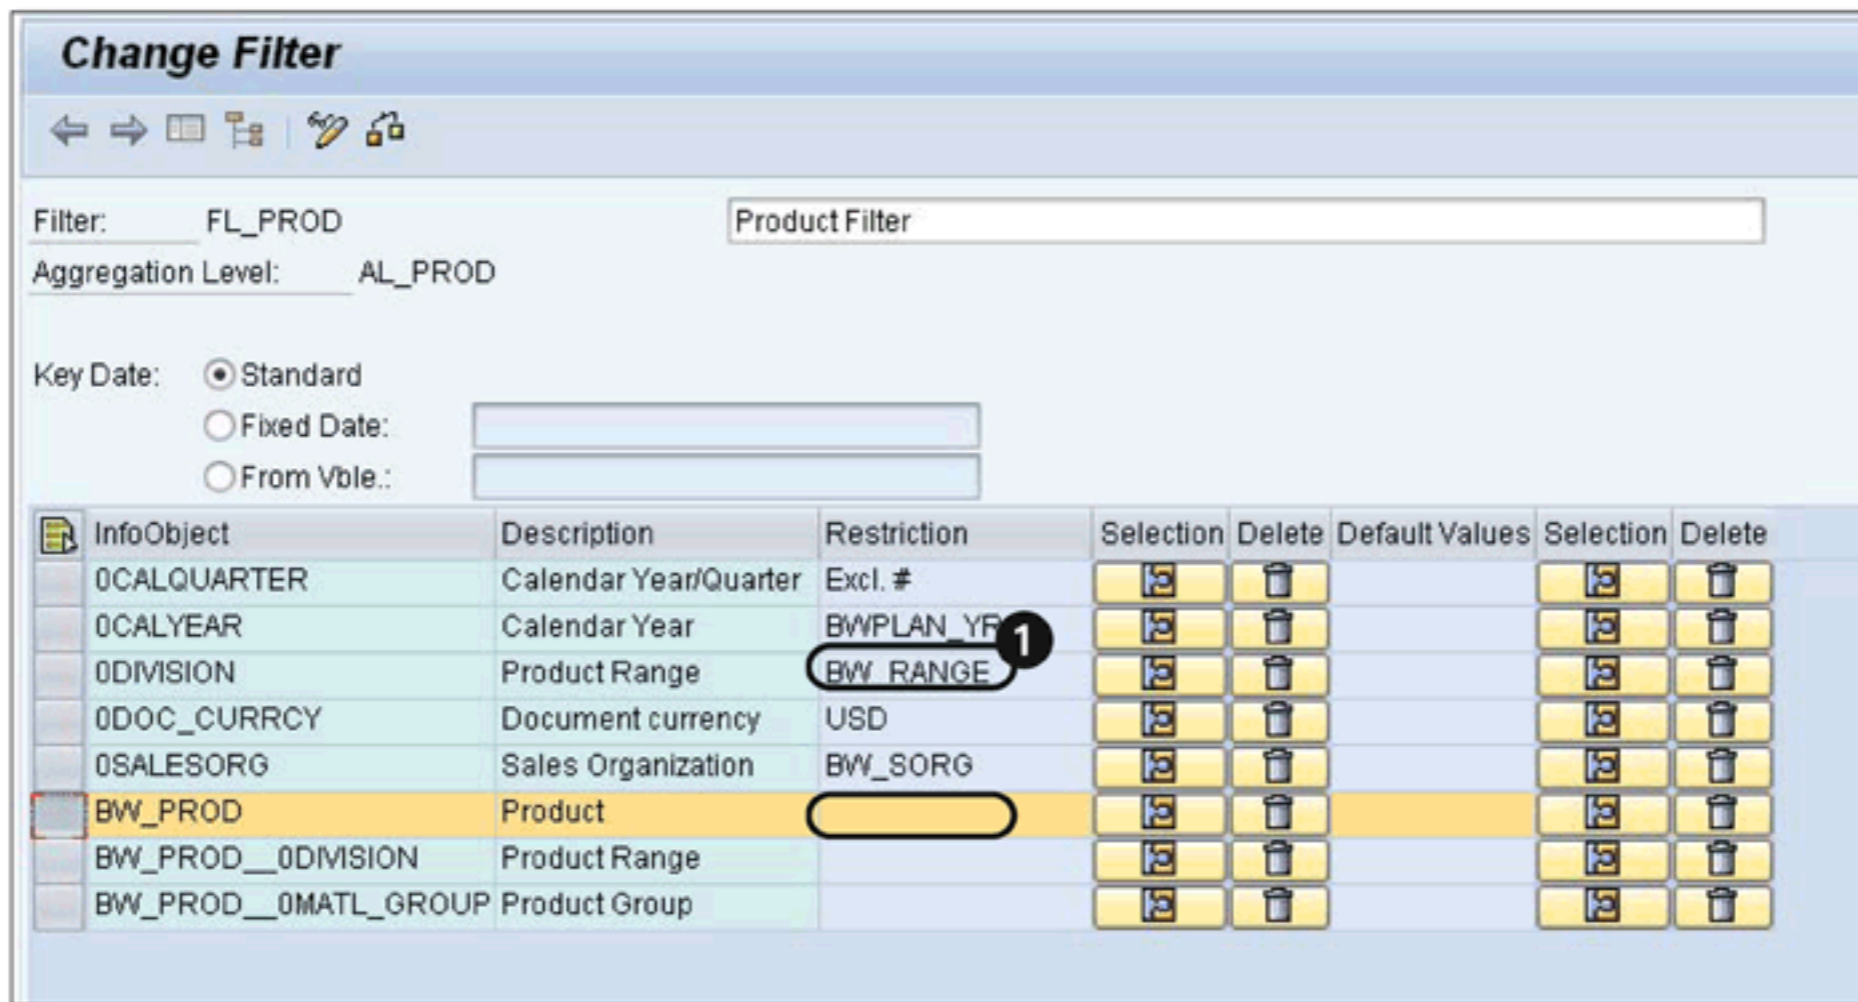

Figure 12.31 Create Product Filter
You can now build another planning filter, FL_PROD (PRODUCT FILTER), on the product level aggregation level. The restriction is shown in Figure 12.31.
Here the product range (ODIVISION) characteristic is restricted with the BW_RANGE user entry variable (1 of Figure 12.31), which has a single mandatory entry. Also, note that there is no restriction defined for the product (BW_PROD) characteristic (2). This means that all of the values of the product characteristic are available for planning. During planning, we'll be using characteristic relationships for the validation and proposal of product values.